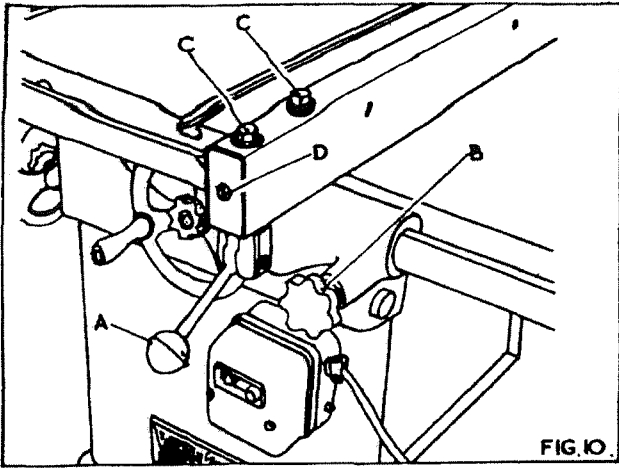

FIG. 10
1. Lift handle "A" in Fig. 10 and disengage the pinion from the front racked fence bar by pulling handwheel "B" out of the fence front bracket.
3. If fence is incorrectly aligned, loosen the two hexagon head bolts "C", in Fig. 10, and re-align as above. When set tighten all bolts.